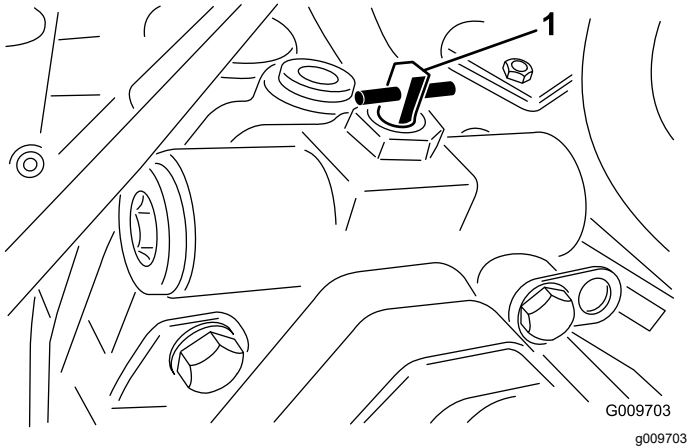

Figure 101
7. Open the tow bypass valve of the traction pump by rotating it 90° (1/4 turn) in either direction (Figure 101).
2. Open the tow bypass valve of the traction pump by rotating it 90° (1/4 turn) in either direction (Figure 101).